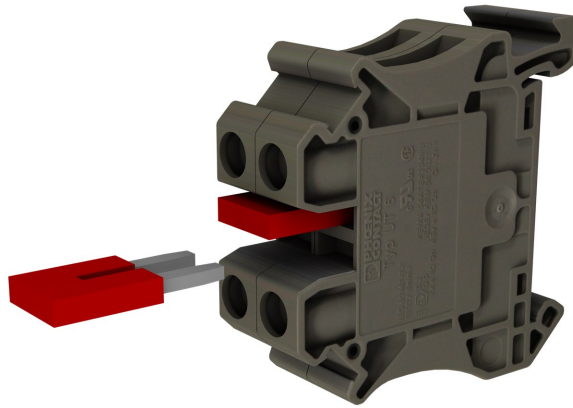
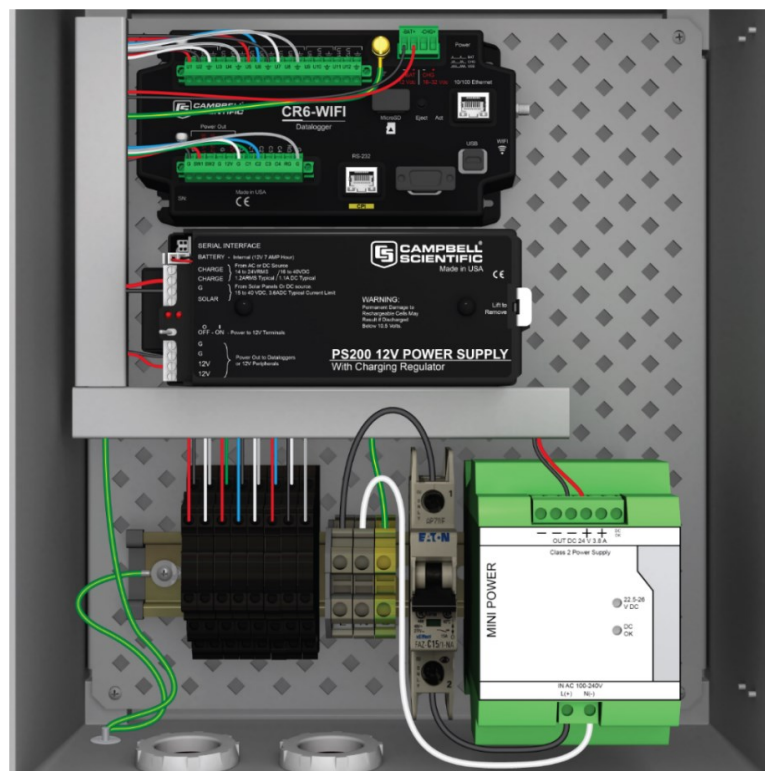

FIGURE B-8. Attaching wire jumpers
FIGURE B-9. Wiring the DIN-rail components to other equipment in the enclosure
7. Attach wire jumpers between the DIN-rail components and other equipment inside the enclosure. If it is necessary to use jumpers to join two components, press each jumper firmly into the receptacles on each component (FIGURE B-8 (p. 37)). To keep the enclosure organized, wiring ducts with covers are available to keep the loose wires gathered together (FIGURE B-9 (p. 37)).